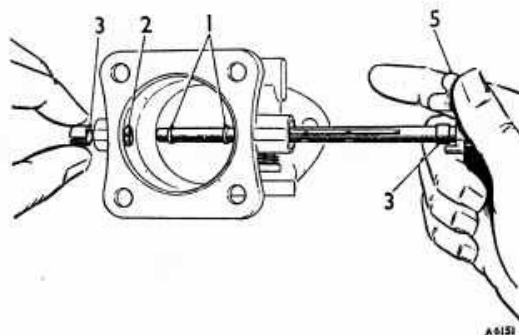

Fig. 3. The small clips (1) fitted to the throttle spindle
2. Place the two smaller spring clips (1) (Fig. 3) on the inserted end of the spindle and feed the spindle into the opposite bush. This must be done gently so as to prevent the bushes from being pushed out of position (a piece of tubing that will just fit over the spindle will help to keep the second bush in place.) When the disc slot in the spindle is central, separate the smaller clips (1) (Fig. 3) and position them so that their gaps are at 90° to the disc slot, then slide the clips